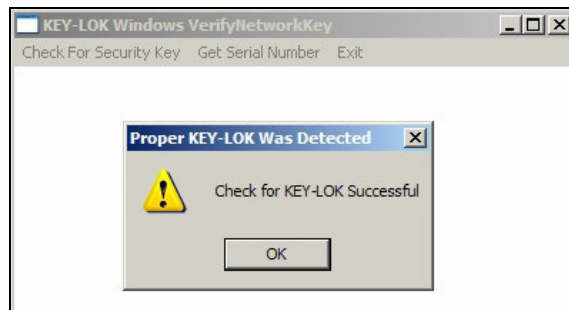

Figure C.13
b) Run VerifyNetworkKey.exe program (see figure C.13)